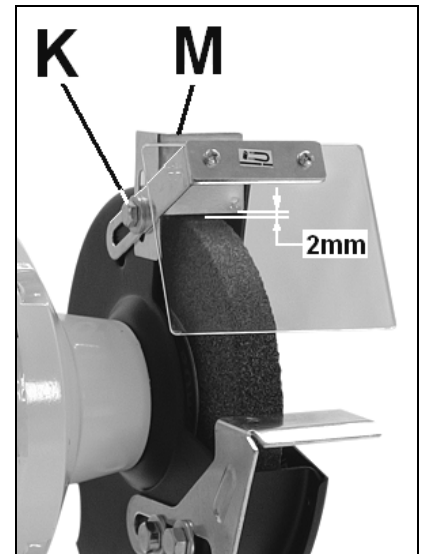

Fig 3
Use a bolt (K, Fig 3) and washer to mount the eye shield and spark guard (M).